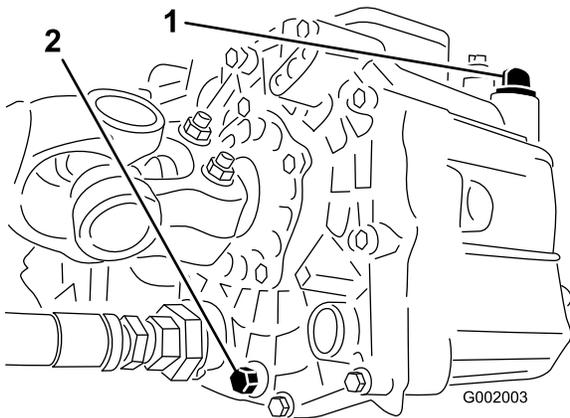

Figure 53
3. Remove the drain plug from the side of the reservoir, and let the hydraulic fluid flow into the drain pan (Figure 53).